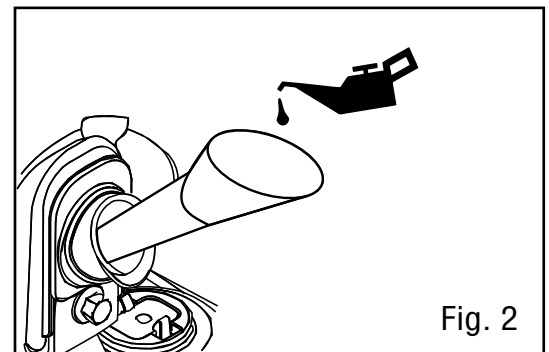
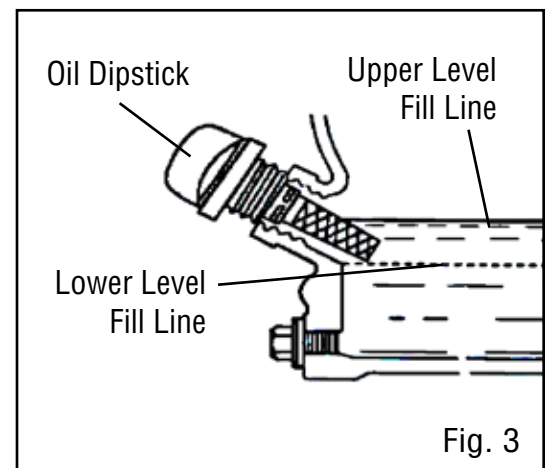

Fig. 2
Fig. 3
3. Using an oil funnel or appropriate dispenser, slowly add oil into the oil fill (Fig. 2), being careful not to overfill the unit. Fill the crankcase to the upper fill line so you can visually see the oil coming halfway up the oil fill threads (Fig. 3).